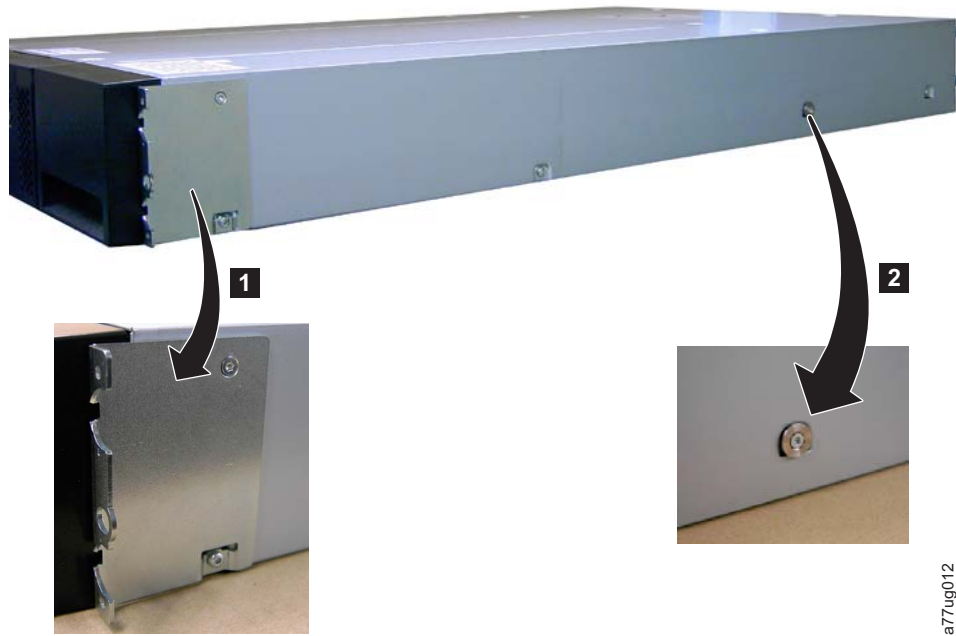

Figure 10-27. Mounting brackets and anchors for securing the library in a rack (one bracket and anchor on each side of the library)
1. Remove the mounting brackets (**1** in Figure 10-27 on page 10-28) and anchors (**2**) from each side of the defective library and install them on the replacement library enclosure.